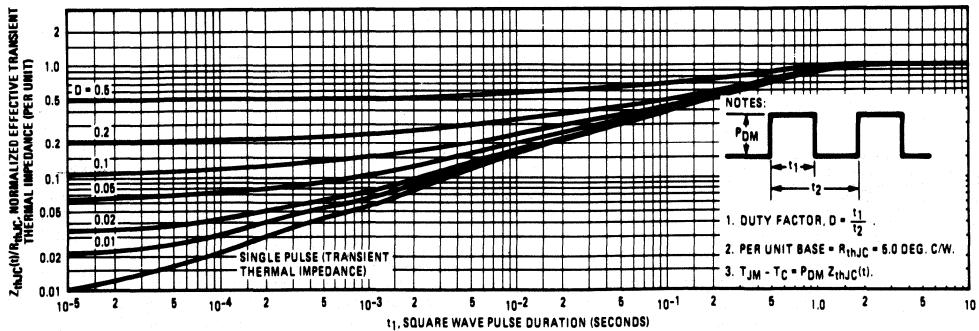

Fig. 5 - Maximum effective transient thermal impedance, junction-to-case vs. pulse duration.
3. Repetitive Rating: Pulse width limited by max. junction temperature. See Thermal Impedance Curve (Figure 5).